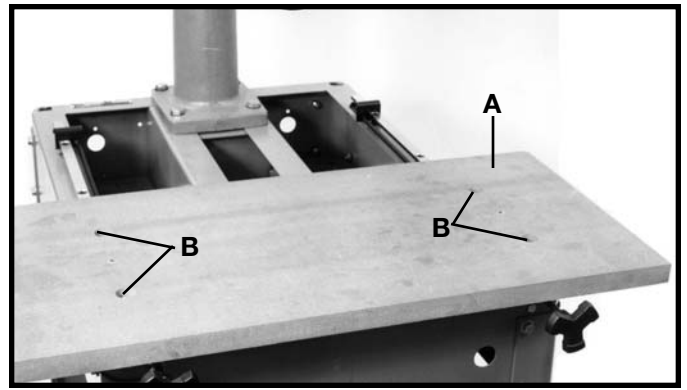

Fig. 27
1. Place main table board (A) Fig. 27, on the table mounting brackets making sure that the two roll pins in the table mounting brackets fit into the two holes in bottom of main table board (A). Fasten table in place, place a 1/4" flat washer onto a 1/4-20x1-3/4" round head screw and insert the screws through holes (B) predrilled in the main table board (A) and tighten securely.